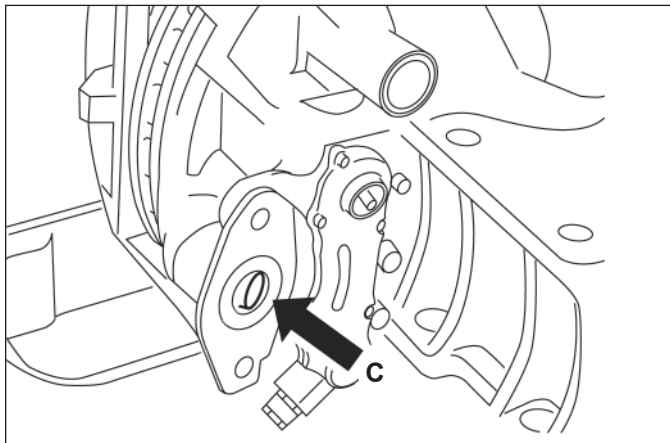

Figure 45 – Spring Brake Installation
5.4.14 Reinstallation. Before installing the brake chamber, the actuator flange (See Figure 45, arrow "C") must be cleaned and inspected. Consult the vehicle manual. The spherical cup in the lever (19) must be greased with white grease (Part No. II14525 or K021964). Add grease to the rubber gasket on the chamber.